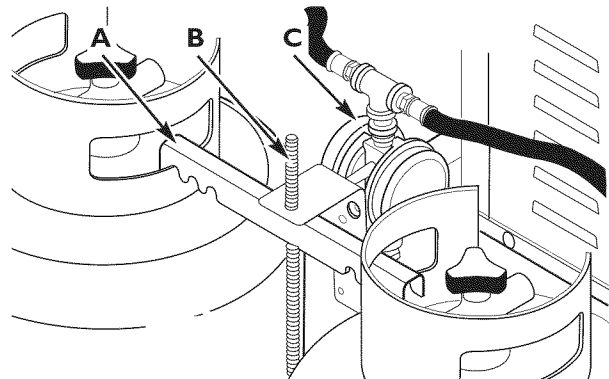

Figure 7 — Fuel Hose/Regulator Assembly Placement
4. Slide the fuel hose/regulator assembly over the threaded rod so that it faces the generator and rests on the hold-down bracket (see Figure 7).
4. Remove wing nut from threaded rod by turning it COUNTERCLOCKWISE. Lift and remove the fuel hose/regulator assembly from the threaded rod. See Figures 7 and 8.